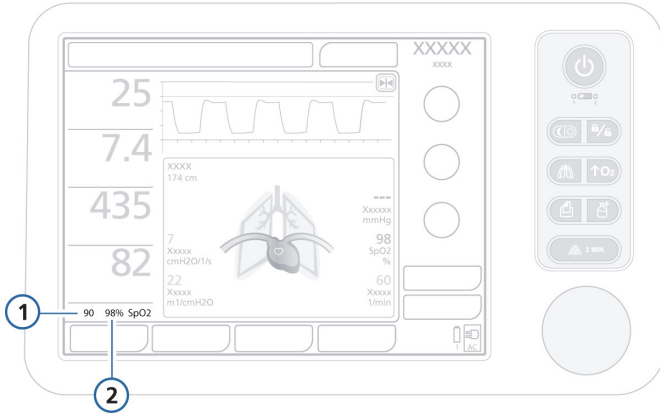

Figure J-5. SpO2 data in main display
When SpO2 monitoring is enabled (in the System > Sensors on/off window), the SpO2 low alarm limit and measured SpO2 value are always displayed, below the MMP list, as shown in Figure J-5.
- When SpO2 monitoring is enabled (in the System > Sensors on/off window), the SpO2 low alarm limit and measured SpO2 value are always displayed below the MMP list, as shown in Figure J-5 (Section J.4.2).
When SpO2 monitoring is enabled (in the System > Sensors on/off window), the SpO2 low alarm limit and measured SpO2 value are always displayed below the MMP list, as shown in Figure J-5 (Section J.4.2).